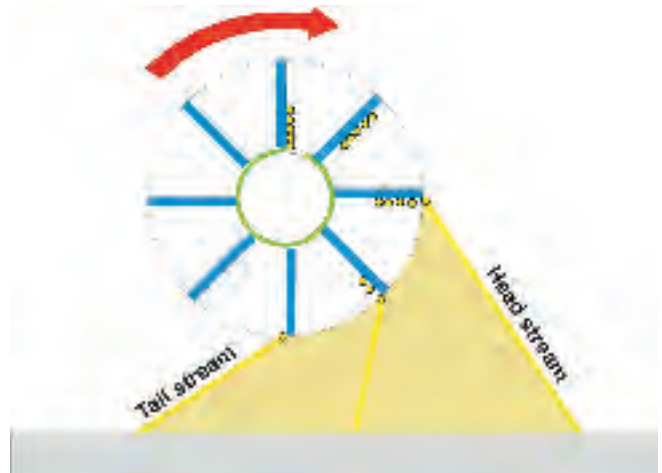

Fig.7 Schematic representation of shot cohort movement positions.
Fig.7 is a schematic representation of the several significant positions of a shot cohort. The shot particles exit onto the throwing blade at slightly different times. This means that there will be an initial cohort spread along, as well as across, the blade. A blade 50mm wide by 150mm long has an area of $7,500 \text{ mm}^2$. It follows that a cohort of, say, 3,500 S230 shot particles will be present, on average, as a monolayer. The radial spread will increase as the cohort moves towards the blade tip - that is because centrifugal acceleration increases towards the blade tip - so that the leading particles are travelling faster than those at the rear. The time taken for the first particle to travel from the exit slot to the blade tip determines the position of the head stream and that for the last particle determines the position of the tail stream.
If $L = R$. Equation (15) simplifies enormously when $L = R$ to give $T = 1/(\pi N)$. One revolution takes a time $1/N$ so that T is always $1/\pi$ of a revolution – about one-third. Referring to fig.7 that is equivalent to the first particle joining a blade at about 11 o'clock and being thrown off at 3 o'clock. If, for example, $n = 50$ r.p.s then $T = 1s/50\pi$ or 0.0064s.